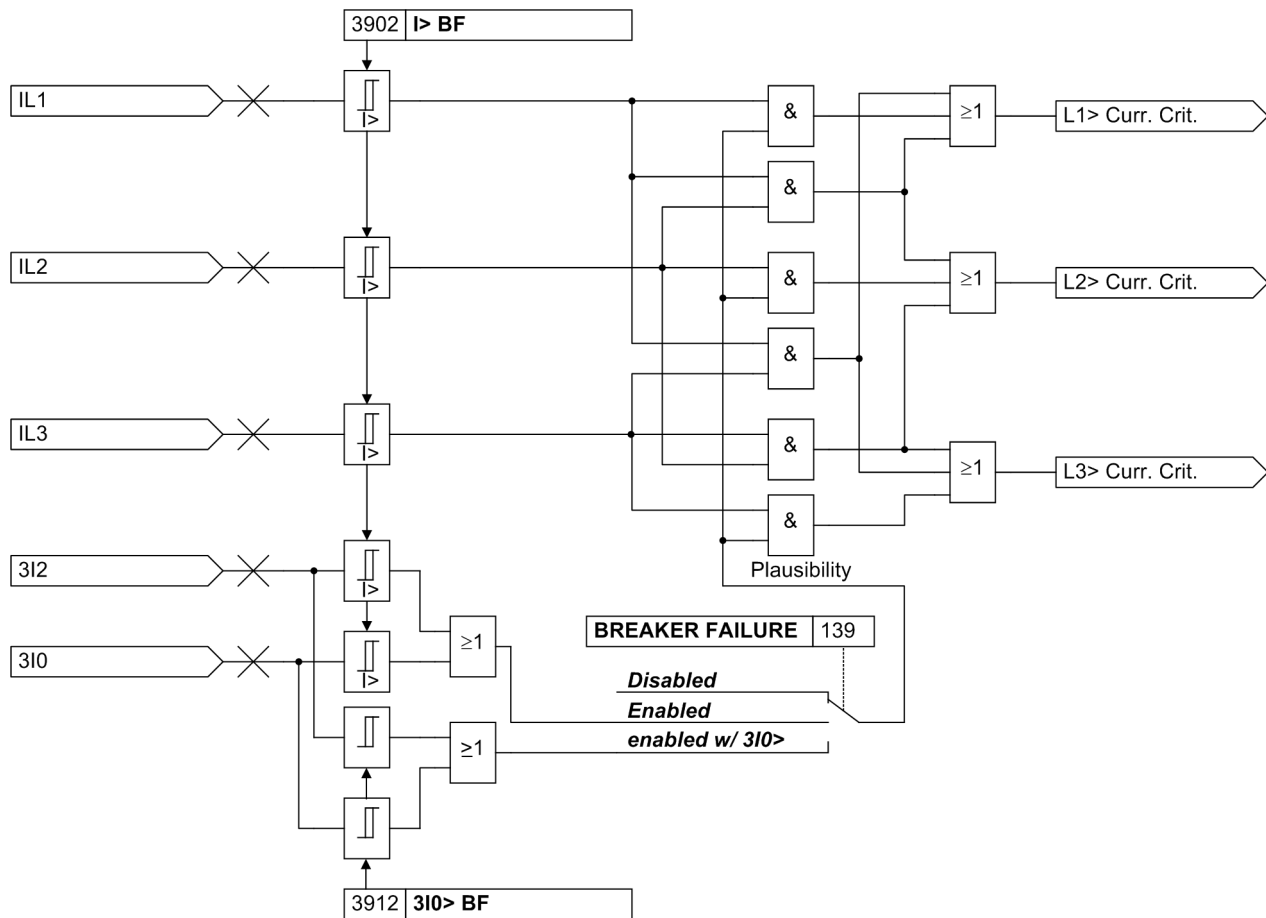
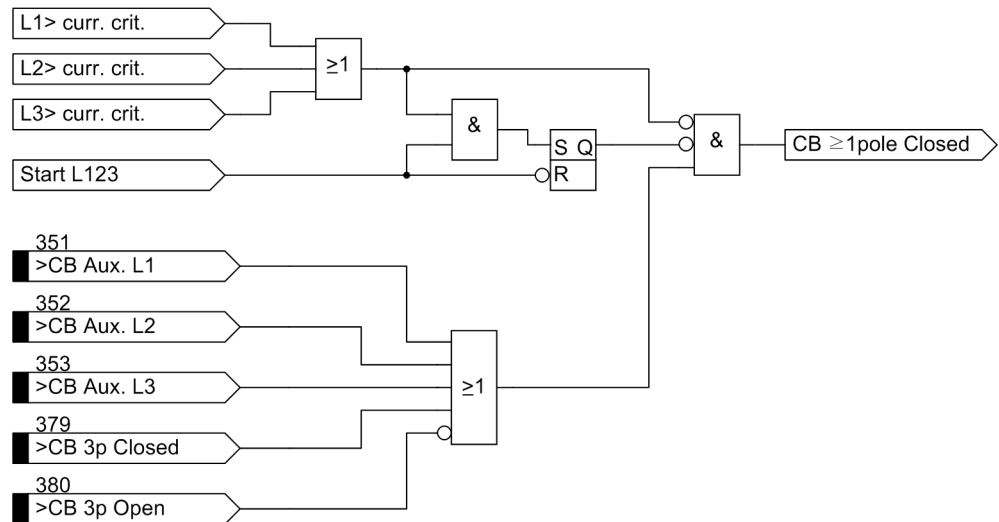
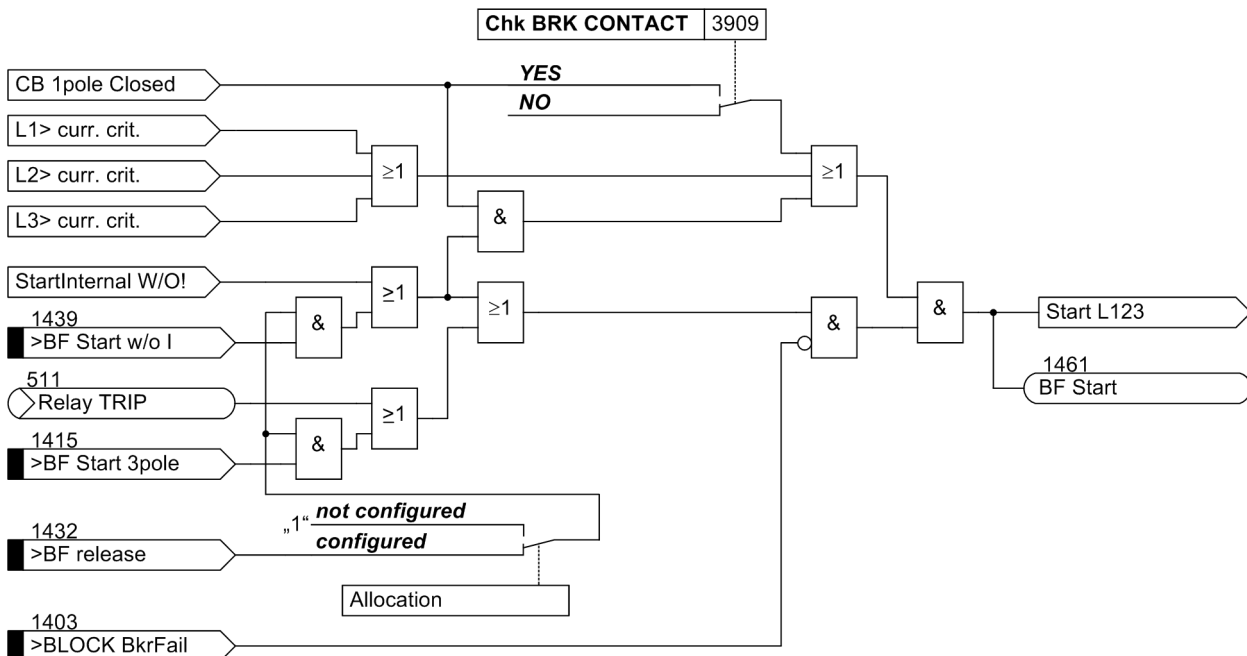
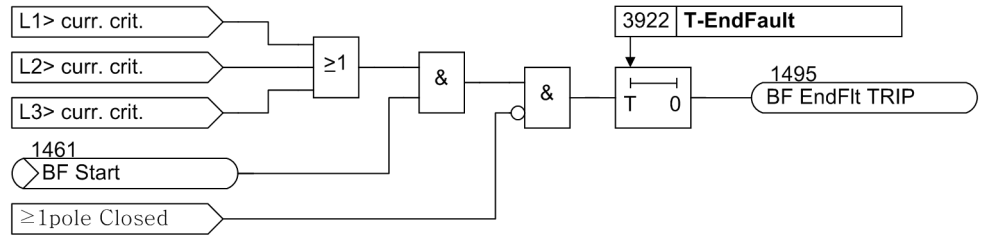

Figure 2-131 Current flow monitoring with plausibility currents $3 \cdot I_0$ and $3 \cdot I_2$
Figure 2-133 Creation of signal "CB ≥ any pole closed"
Figure 2-134 Breaker failure protection with common phase initiation
Figure 2-143 Operation scheme of end fault protection
The currents are monitored and compared with the set threshold. Besides the three phase currents, two further current detectors are provided in order to allow a plausibility check. For this plausibility check, a separate threshold value can be used if the configuration is set accordingly (see Figure 2-131).
It is possible to disable the auxiliary contact criterion. If you set the parameter switch **Chk BRK CONTACT** (Figure 2-134 top) to **NO**, the breaker failure protection can only be started when current flow is detected. The position of the auxiliary contacts is then not evaluated even if the auxiliary contacts are connected to the device.
On the other hand, current flow is not a reliable criterion for proper operation of the circuit breaker for faults which do not cause detectable current flow (e.g. Buchholz protection). Information regarding the position of the circuit breaker auxiliary contacts is required in these cases to check the correct response of the circuit breaker. For this purpose, the binary input „>BF Start w/o I“ No. 1439 is provided (Figure 2-134 left). This input initiates the breaker failure protection even if no current flow is detected.
Figure 2-134 shows the operating principle. When the trip signal appears from any internal or external feeder protection and at least one current flow criterion (according to Figure 2-131) is present, the breaker failure protection is initiated and the corresponding delay time(s) is (are) started.
If the current criterion is not fulfilled for any of the phases, the position of the circuit breaker auxiliary contact(s) is queried provided that this is available according to Figure 2-133. If the circuit breaker poles have individual auxiliary contacts, the series connection of the three normally closed (NC) auxiliary contacts is used. The circuit breaker has operated correctly after a three-pole trip command only when none of the phases carries current or when all three NC auxiliary contacts have closed.
Figure 2-133 illustrates how the internal signal „CB pole ≥L1 closed“ is created (see Figure 2-134 left) if at least one circuit breaker pole is closed.
The end fault is recognized when the current continues flowing although the circuit breaker auxiliary contacts indicate that the breaker is open. An additional criterion is the presence of any breaker failure protection initiate signal. Figure 2-143 illustrates the functional principle. If the breaker failure protection is initiated and current flow is detected (current criteria „L* > current criterion“ according to Figure 2-131), but no circuit breaker pole is closed (auxiliary contact criterion „any pole closed“), then the timer **T-EndFault** is started. At the end of this time an intertrip signal is transmitted to the opposite end(s) of the protected object.
Additionally, the current criteria (from Figure 2-131) are processed. Pole discrepancy can only be detected when current is not flowing through all three poles, i.e. through only one or two poles. When current is flowing through all three poles, all three poles must be closed even if the breaker auxiliary contacts indicate a different status.